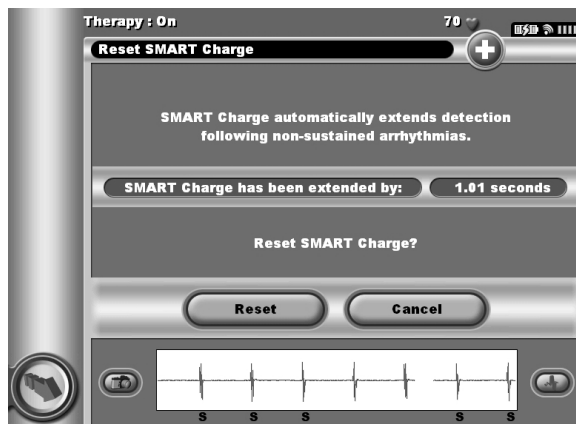

Figure 51: *Reset Smart Charge screen*
3. Select the Smart Charge button. The Reset Smart Charge screen appears (Figure 51).